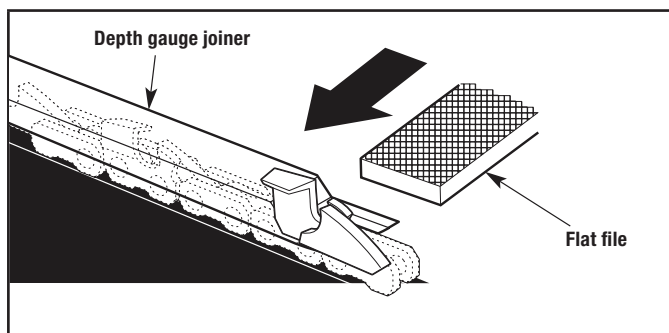

Figure 35
3. Use a depth gauge tool (not included) to measure the depth gauge clearance (Fig. 35) of each cutter. The depth gauge clearance must be maintained at 1/32 inch (0.6 mm). The depth gauge clearance determines the depth at which the cutter enters the wood during operation and the size of the wood chips produced. Too much clearance increases the chance of kickback. Too little clearance decreases the size of the wood chips, thus decreasing the ability to cut.
- 3a. Use a 1/32 inch (0.6 mm) depth gauge jointer and a flat file (tools not included) to lower the depth gauge to the correct clearance (Fig. 35).